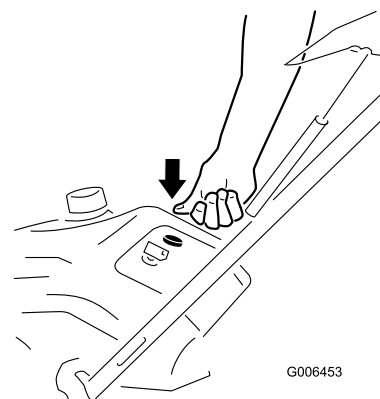

Figure 16
3. Firmly push in the primer with your thumb as indicated by the table below, holding in the primer in for a second before releasing it each time (Figure 16).